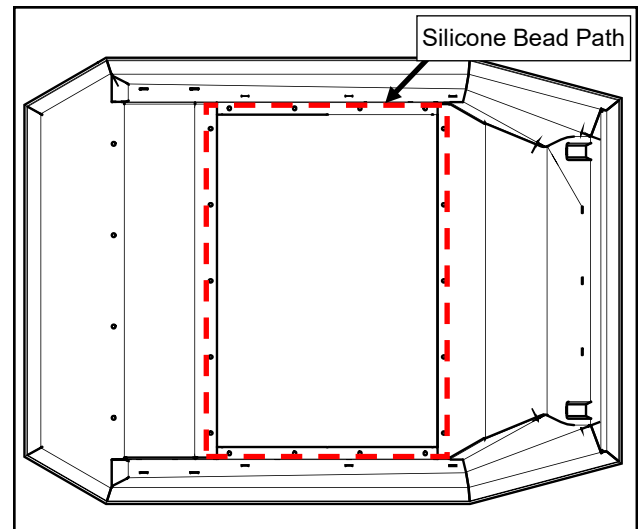

Fig. 2.2 (Apply Silicone)
- 2.2 Apply a bead of silicone along the perimeter of the rectangular opening in the roof (the top, outside surface). The bead shall be just outside the fastener holes as illustrated with the dashed lines of Figure 2.2.